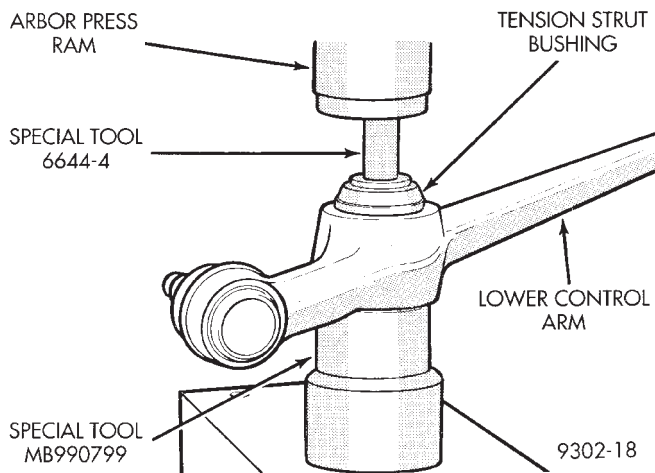

Fig. 5 Removing Lower Control Arm Tension Strut Bushing
(2) Separate the tension strut from the lower control arm assembly.
(3) Position lower control arm in arbor press with tension strut bushing inside Receiver, Special Tool MB-990799 and special tool supporting lower control arm (Fig. 5). Position Remover, Special Tool, 6644-4 on top of tension strut bushing (Fig. 5). Using the arbor press, press Remover, Special Tool, 6644-4 down through the tension strut bushing until the arbor press can push it no farther. As Remover, Special Tool, 6644-4 is pressed down through tension strut bushing it will cut the bushing into two pieces.